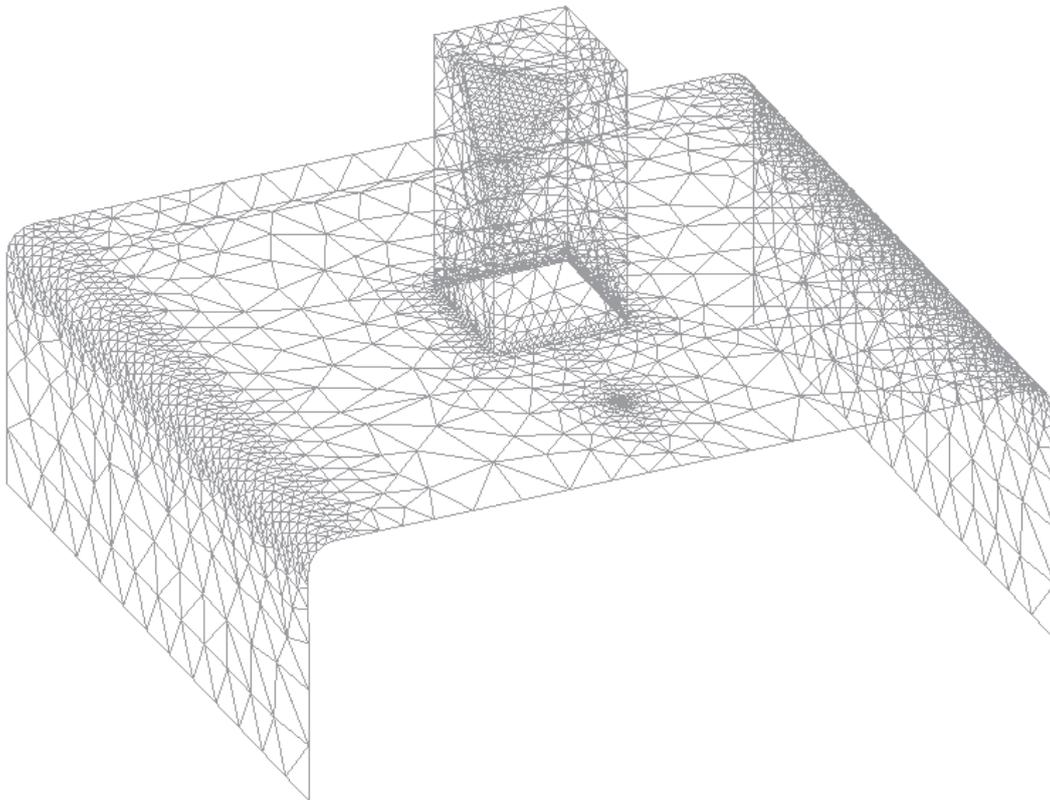

Figure 10. Mesh using sizes assignment by chordal error. Here there is a greater concentration of elements in the curved zones.
- 10 The resulting mesh has a high concentration of elements in curved areas. Now our approximation is significantly improved (see Figure 10).